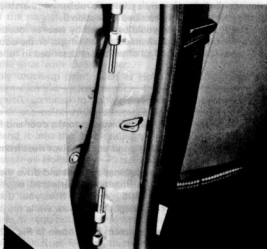

Fig. 12.2. Position of hinge pins prior to installation of door (Sec. 8)
- 4 When installing the hinge pins, tap them in as shown in Fig. 12.2 before hanging the door.